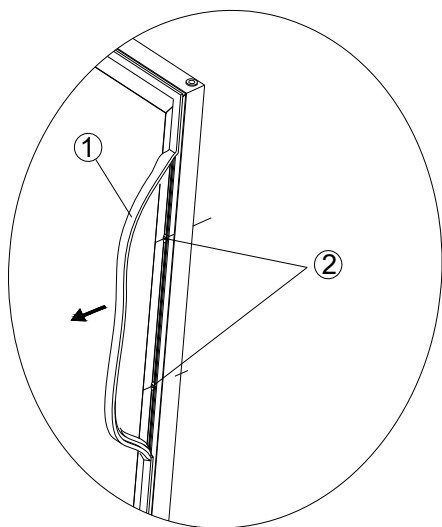

Fig:1
- 1) Pull away the door gasket in the area where the handle is to be installed on the left side as shown below in Fig1. The gasket is easily displaced by hand, no tools are necessary.